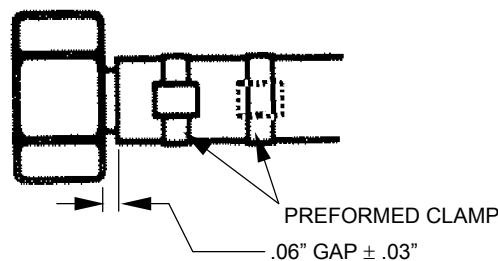

Figure 3-2. Barbed Hose Connection for Breathing Air Hose
b. Installation of Barb Fittings (see Figure 3-2):